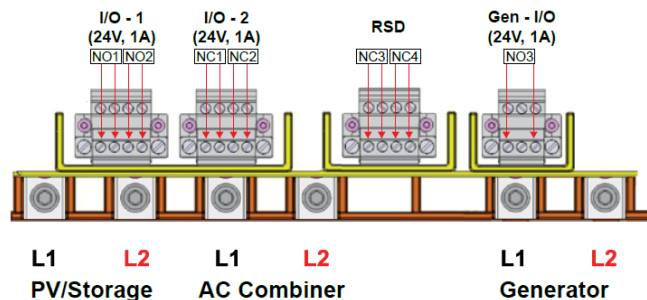

Figure 1: IQ System Controller 2 terminals
- a) Check the voltage across the two screws of the NC3 terminal (refer to Figure 1).
- b) Check the voltage across the two screws of the NC4 terminal (refer to Figure 1).
a) Check the voltage across the two screws of the NC3 terminal (refer to Figure 1).
b) Check the voltage across the two screws of the NC4 terminal (refer to Figure 1).